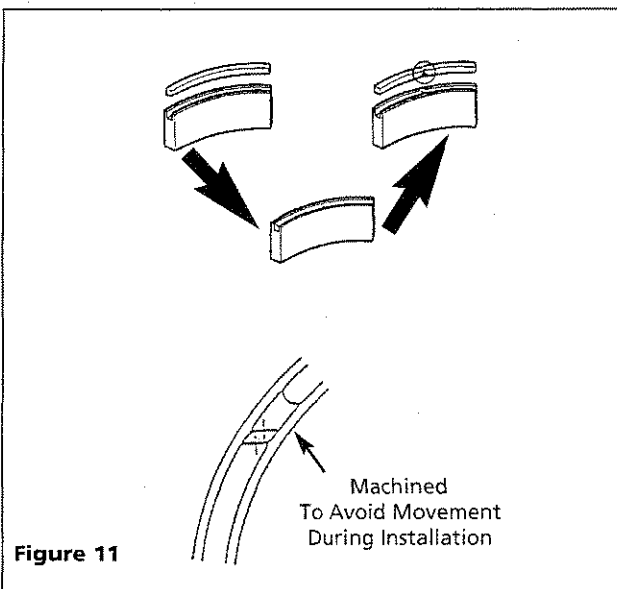

Figure 11
**CAUTION** Insert approximately half of the LP tip seal and remove the tip seal to confirm that a notch in the tip seal has been achieved. This will prevent movement during installation (See Figure 11).